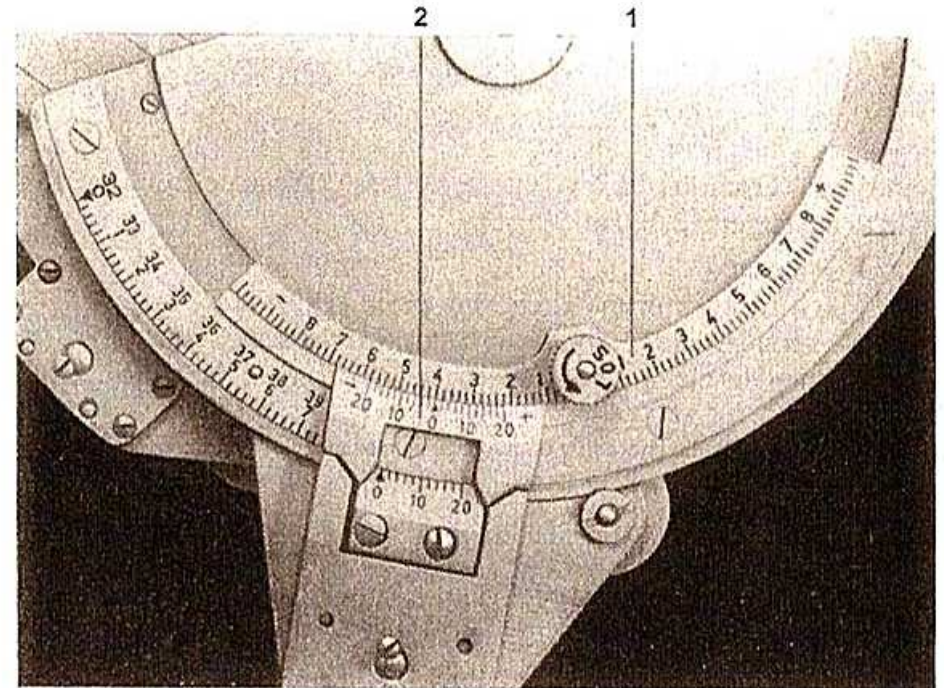

Fig. 39
- f) Set the mark on the double slider (1) on the right distance ruler with distance "2,200".
- g) Tighten the clamp screw (2) for the right distance ruler.
- h) Read the distance B.M.G. – telescope on the left distance ruler = "2,295 m" (For h, see: Fig. 39).